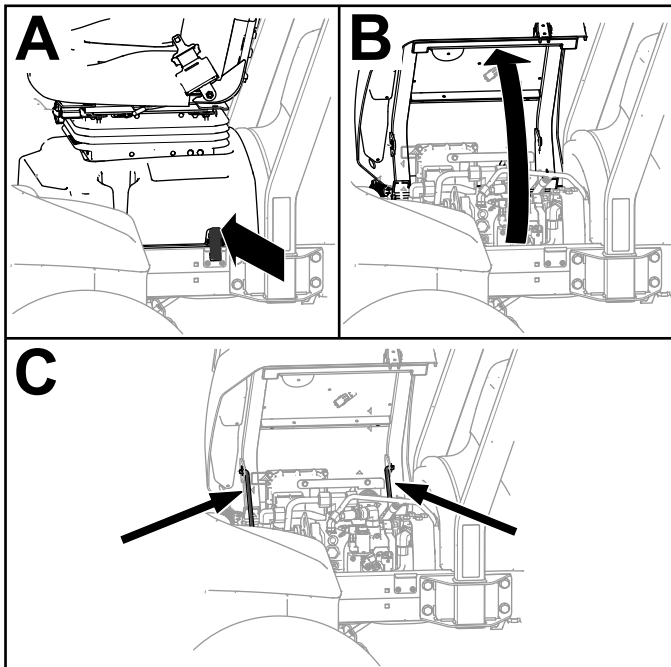

Figure 69
1. Unlatch the seat base (A of Figure 69).
2. Tilt the seat and base open (B of Figure 69).
3. Support it with the prop rods (C of Figure 69).